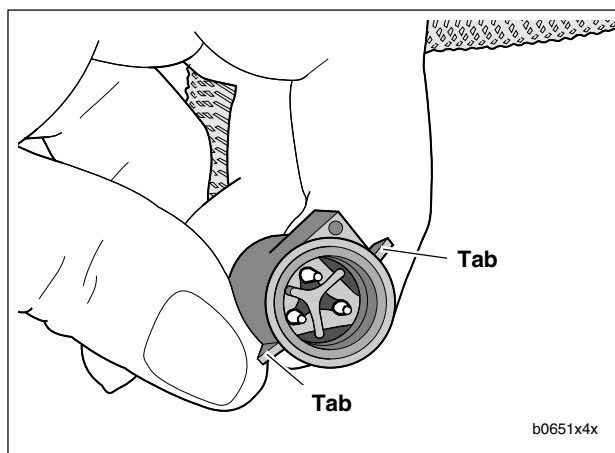

Figure 4-86. Tabs on TP Sensor Connector [88A]
3. See Figure 4-86. Attach throttle position sensor connector [88]. Slots on female connector [88B] must fully engage tabs on male connector housing [88A].